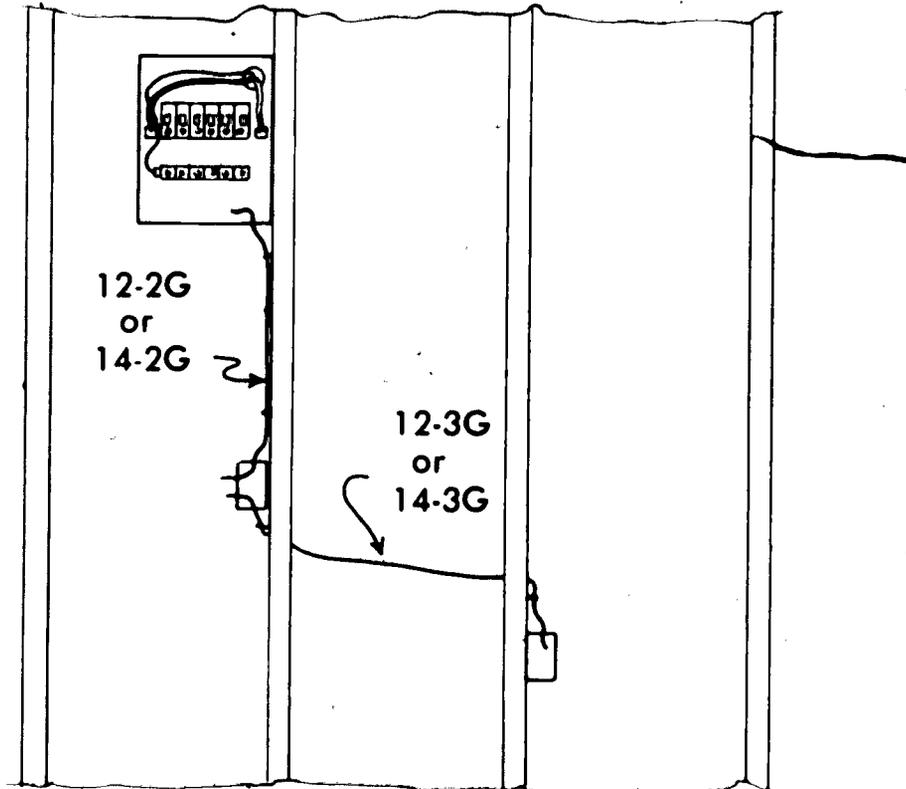

FIGURE 2
- F. Run cable between boxes and to panel (Figure 2)